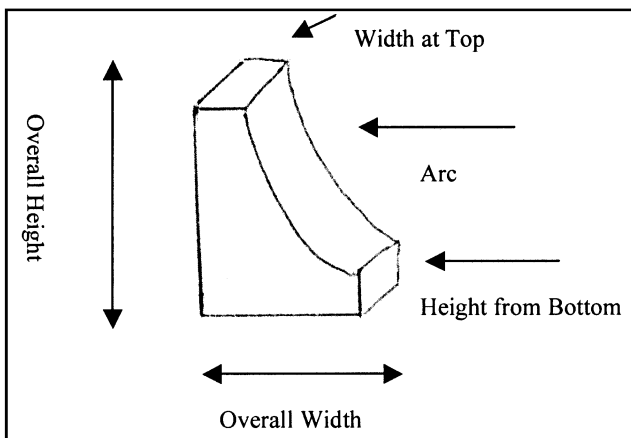

Fig. 1 Schematic of the arc
- Create a template for the arc. Take one of your rectangles and mark about 2 in. from the upper left corner on the upper edge and about 2 in. from the lower right corner on the right edge. We created a giant compass using two pencils and a string marked with the radius of the globe to find the arc, adjusting its position to correspond with the marks on the upper and right edges. Cut away the arc and check the shape of the support template by holding it to the globe (fig. 1).